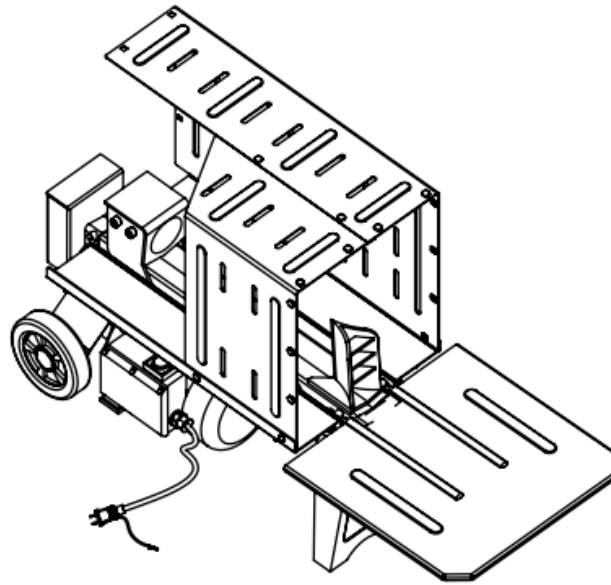

figure 3
6. Making the hook in the front of the extension table contact with the cylindrical boss of the working table, and put the other side on the head of the cylinder. Screw two M6 knobs into the corresponding holes of left and right support plates (loosen two M6 knobs when dismantling the extension table). See figure 3